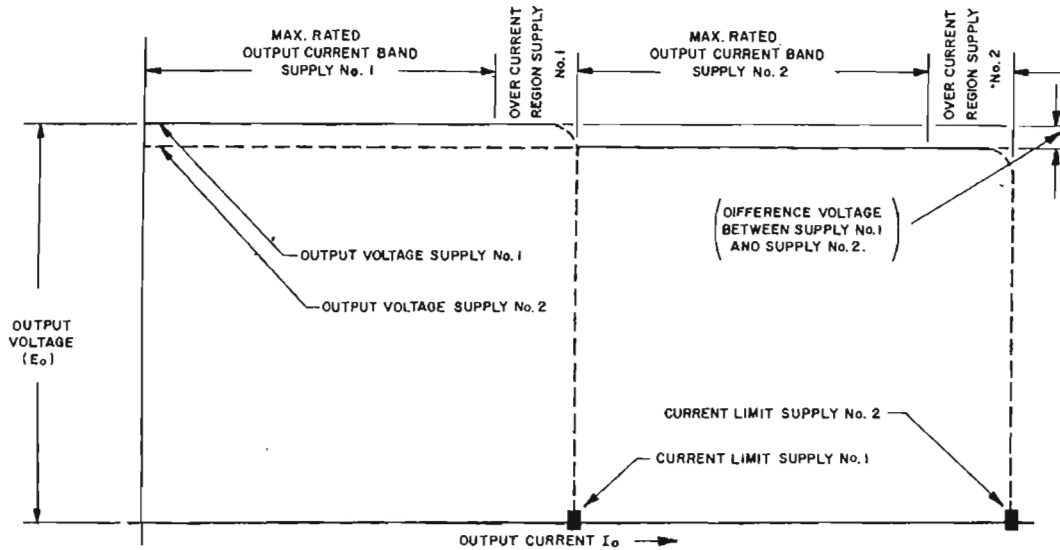

FIG. 3-20 "AUTOMATIC" PARALLEL OPERATION (TWO SUPPLIES).
**NOTE:** The output graph below (refer to FIG. 3-20) shows how the two power supplies operate in the parallel mode. As seen from FIG. 3-20, load variations should be confined within the stabilization region of SUPPLY #2 since there is an initial adjustment error ( $\Delta E_0$ ) between the two supplies.